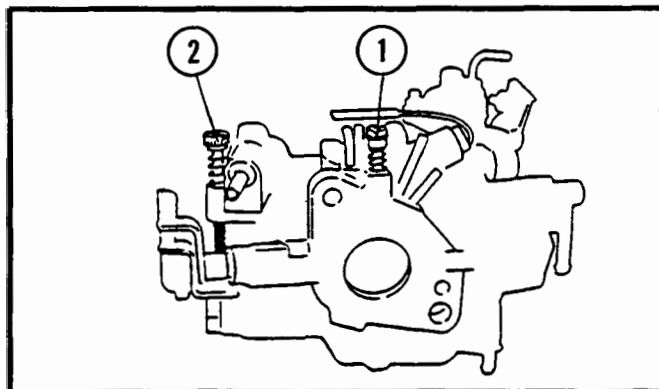

Figure 24.
1. Back off the idle mixture adjusting screw 3 1/2 turns from the fully closed position. See Figure 24.